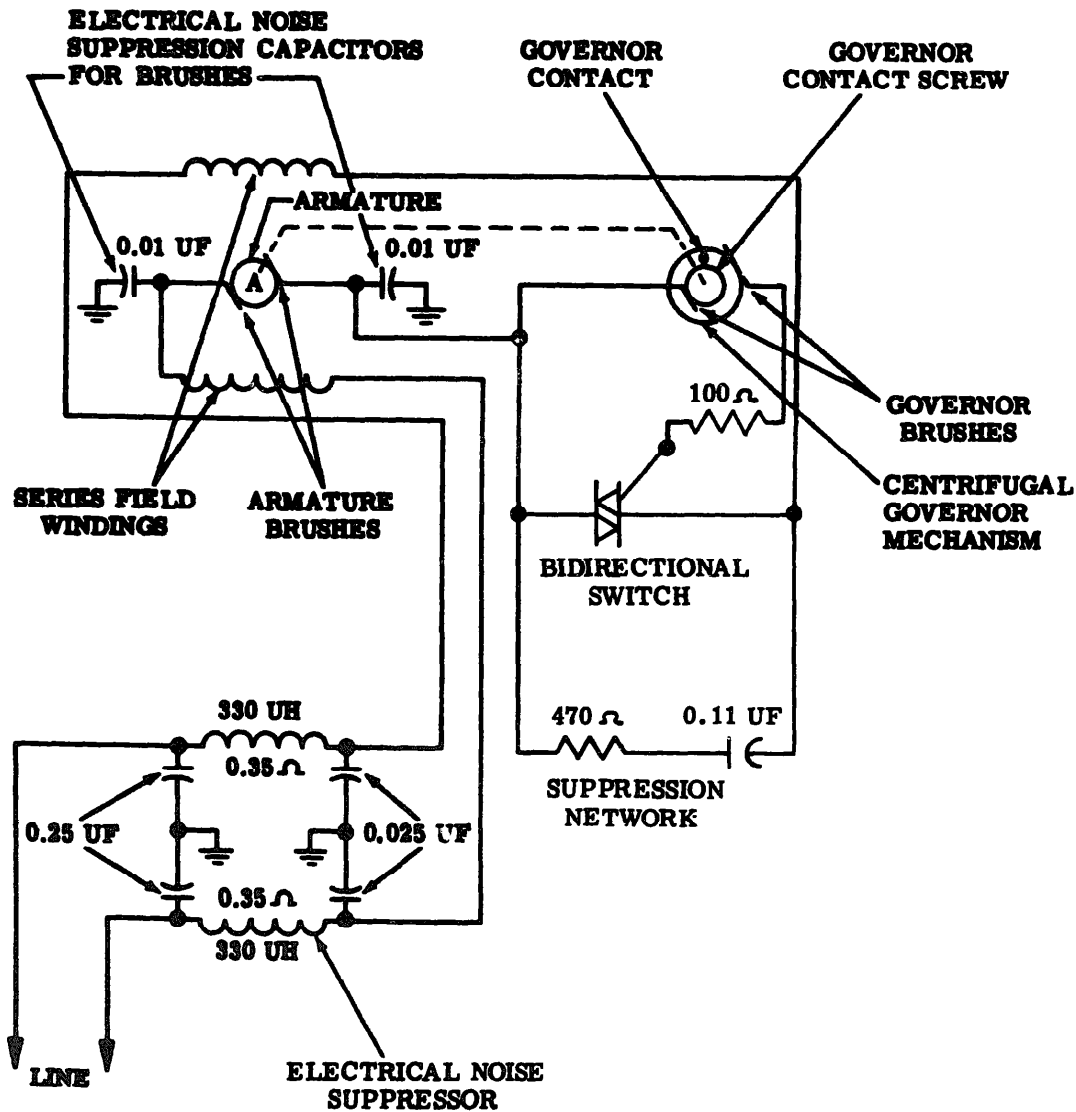

Figure 8- Typical AC Only Governed Motor Unit Schematic Diagram With Bidirectional Switch
3.10 The following description of operation is applicable to ac series governed motor units furnished with a bidirectional switch (Figure 8).